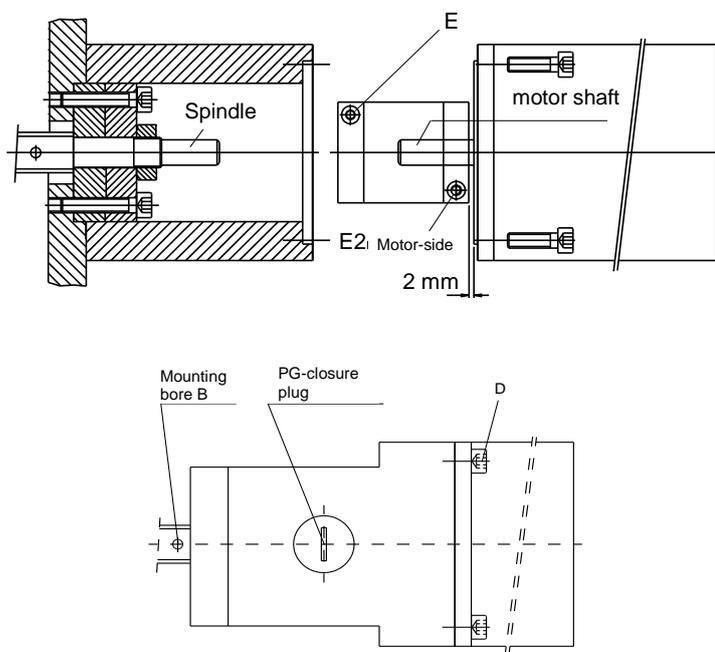

Figure 15: Replacing the Motor and Coupling
Proceed as follows to replace the motor/coupling (see *Figure 15*):
- (1) Remove the PG-closure plugs (see *Figure 15*, page 20).